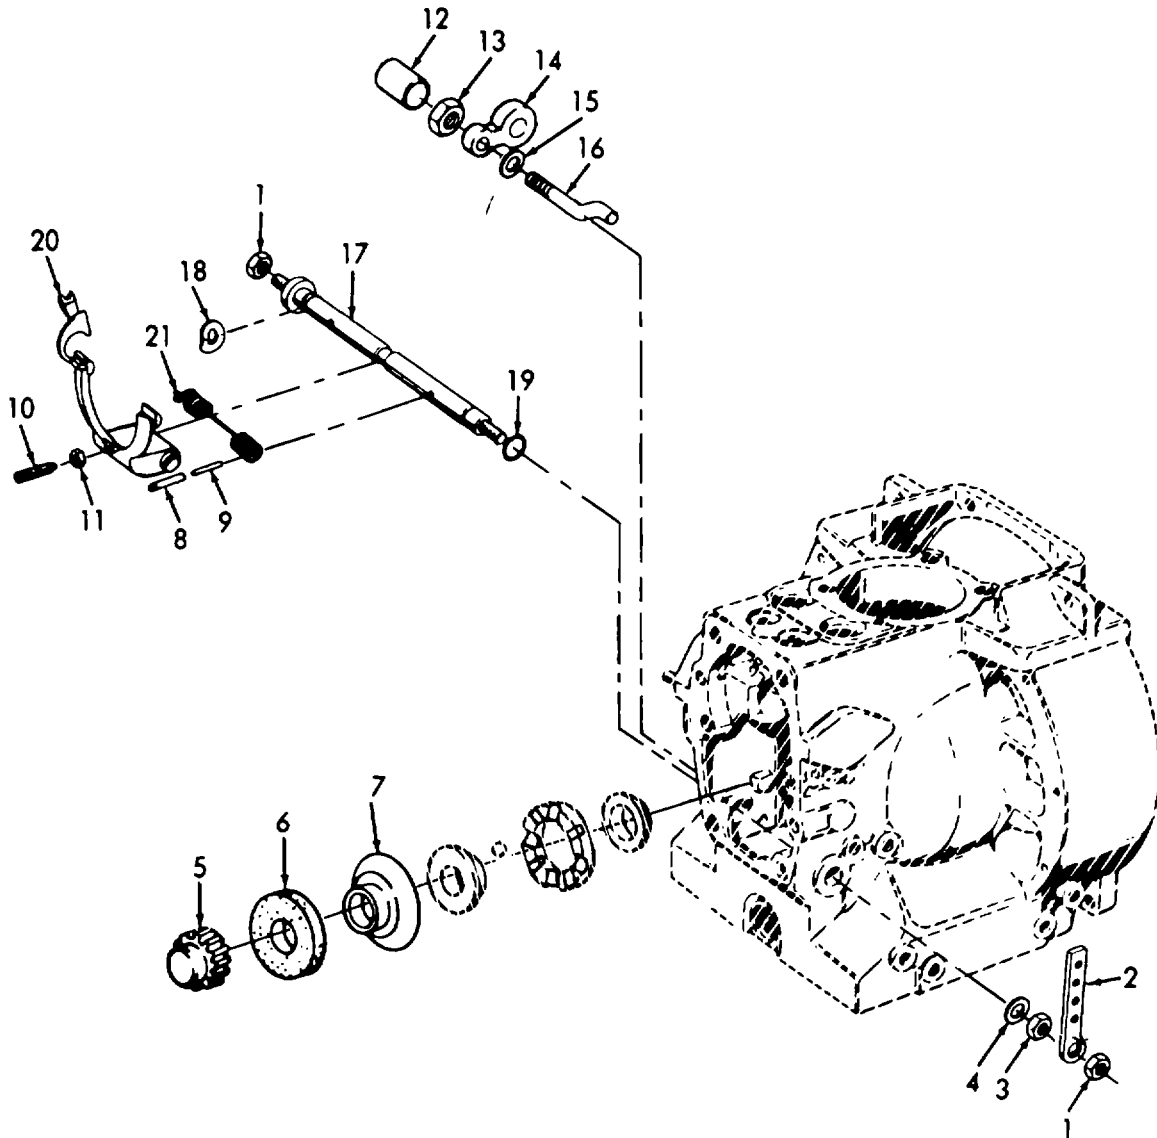

Figure 6-10. Governor Installation.
- (1) Inspect shaft for burrs, cracks, or signs of wear.
- (2) Inspect lever for cracks or signs of wear.
- (3) Replace all damaged parts.
d. Repair. Repair is limited to replacing damaged parts.e. Installation. (Refer to figure 6-10).
- (1) Mount spring (21) on lever (20) and install both parts in crankcase.